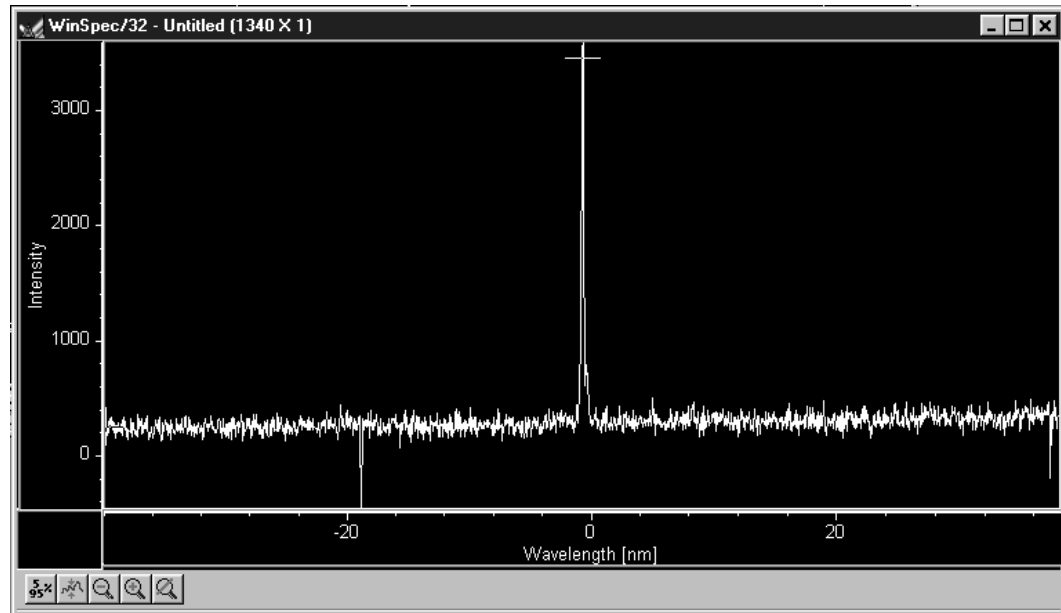

Figure 70. Offset Spectrum for zero-order measurement
5. Figure 70 illustrates a typical Offset data acquisition. The reference peak should appear near the center of the display and the cursor should be near or on the highest point of the peak. If the peak is saturated, cancel, lower the exposure time, and repeat the operation. The display X-axis should be calibrated (any units other than pixels). *If the X-axis is calibrated in pixels, select the desired units as the calibration units on the Usage dialog box (opened by selecting Usage from the Calibration menu).*